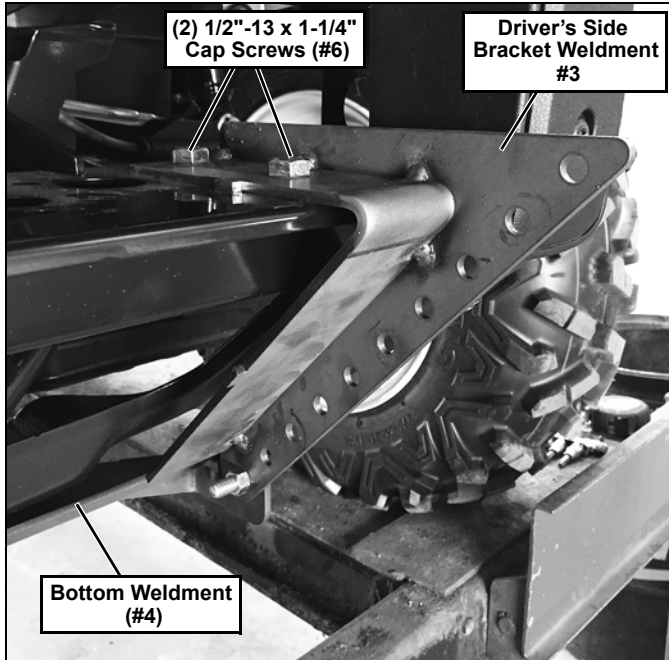

Figure 3
3. On the Driver's Side, position the Driver's Side Bracket Weldment (#3) on top of the UTV frame cross member. The top two holes in the Driver's Side Bracket Weldment (#3) should line up with holes in the frame cross member and the bottom side hole should line up with the side hole in the Bottom Weldment (#4). The Driver's Side Bracket (#3) should be to the inside of the Bottom Weldment (#4). (See Figure 3.)
5. Insert (2) 1/2\"-13 x 1-1/4\" Cap Screws (#6) and (2) 1/2\" Lock Washers (#5) into the top holes of the Driver's Side Bracket Weldment (#3) and thru the UTV frame. (See Figure 3.)